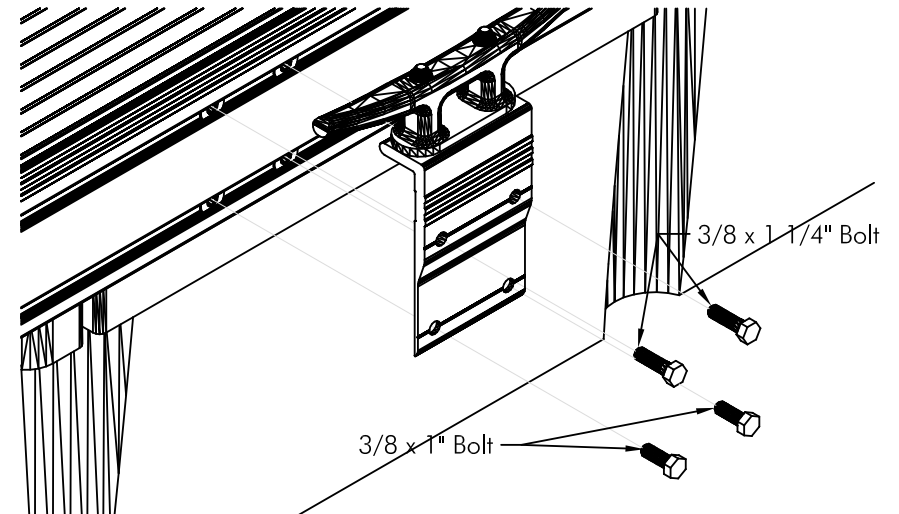

Fig. 3
- Insert (2) 3/8" x 1 1/4" bolts in the top holes and (2) 3/8" x 1" bolts in the bottom holes of the angle bracket, align the bolts with the corresponding nylock nuts and flatwashers previously installed. Adjust to the desired location. Torque to 40 ft/lbs. See Fig 3